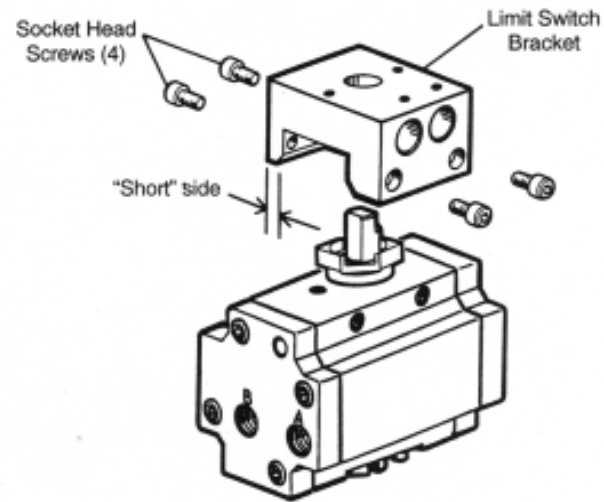

Figure 4
4. Place the limit switch bracket atop actuator so that the long side faces the side of the actuator on which the limit switch is desired. Secure the bracket with the socket head screws. All factory mounted units are assembled so that the long side is opposite the actuator nameplate side unless otherwise specified. Figure 4